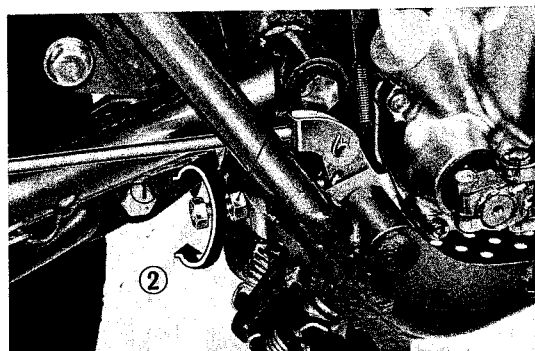

Fig. 17 ① Raise ② Lower ③ Lock nut ④ Stopper
- 1) Brake pedal height can be adjusted to suit an individual rider. To adjust, loosen the lock nut and turn the stopper in or out as required. (Fig. 17)